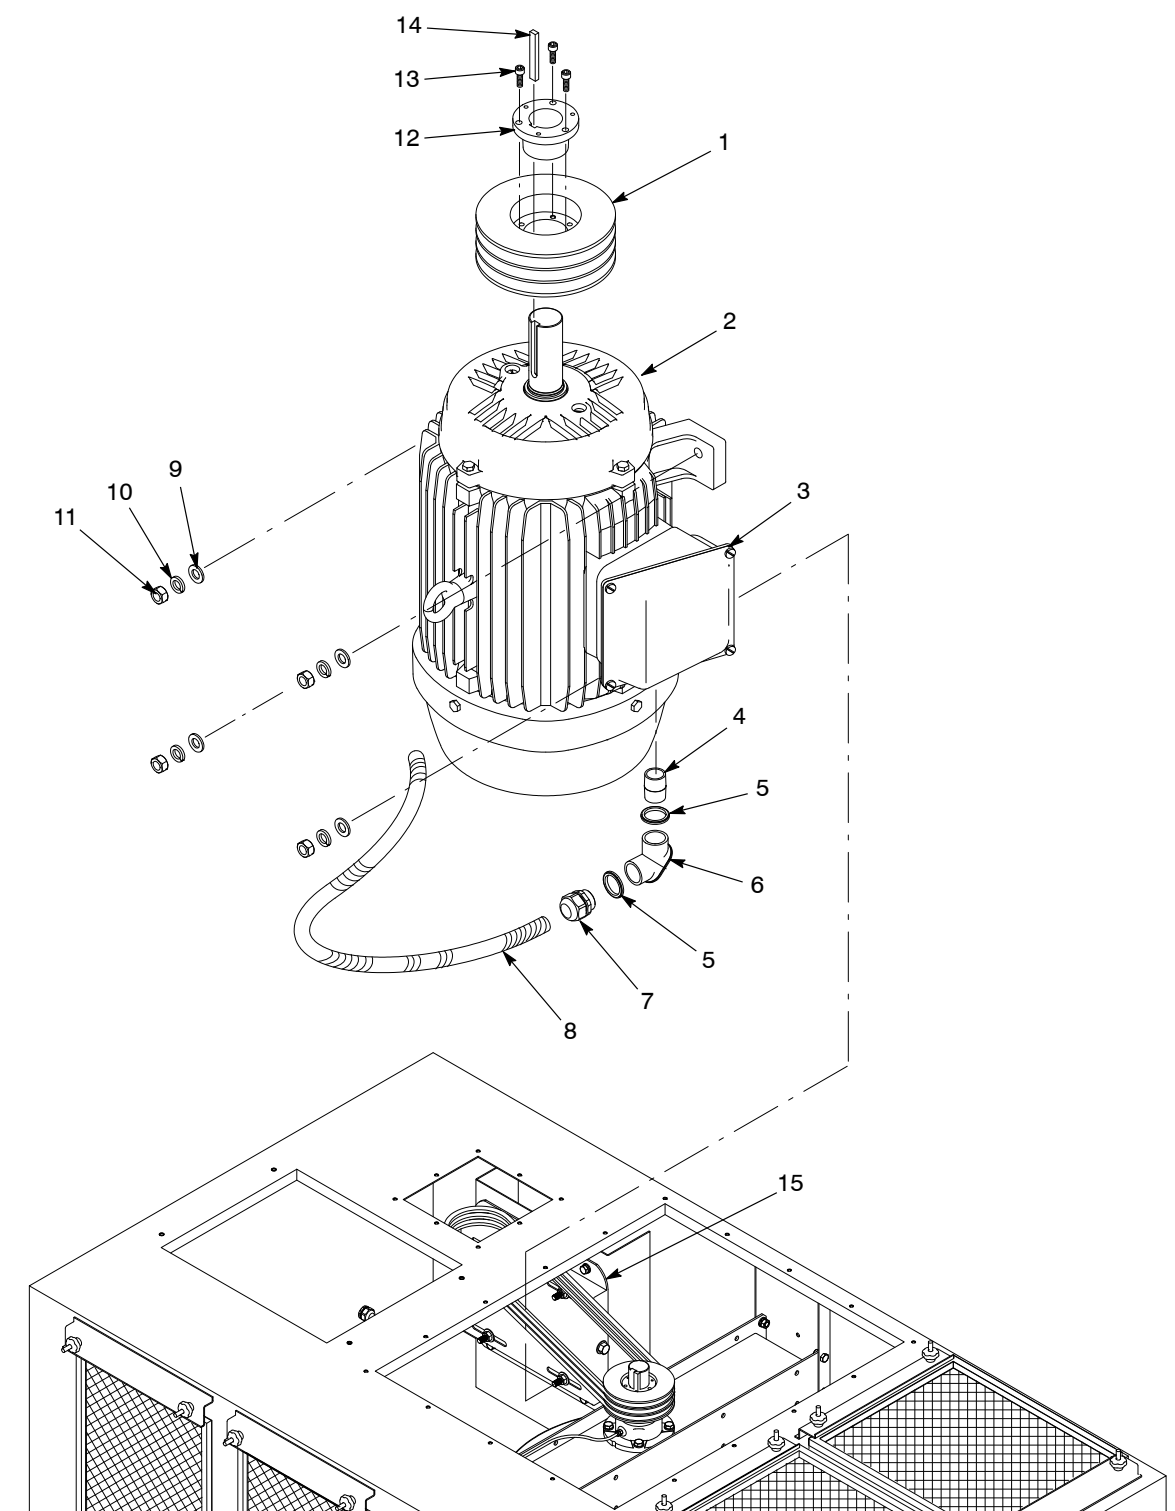

Figure 6-7 Motor and Motor Sheave Replacement
1. See Figure 6-7. Remove the motor access plates and left final filter.
2. Remove the V-belts from the motor sheave (1), as described in the *V-Belt Replacement* procedure on page 6-11.
3. Remove the cover from the motor junction box (3). Tag and disconnect the wiring from the motor leads. Disconnect the close pipe nipple (4) from the junction box.
4. Secure a heavy-duty sling or chains around the motor (2). Attach the sling or chains to a chain hoist or to the forks of a lift truck. Take up the slack in the sling or chains.
5. Remove the nuts (11) and washers (10, 9) securing the motor to the motor mount (15).